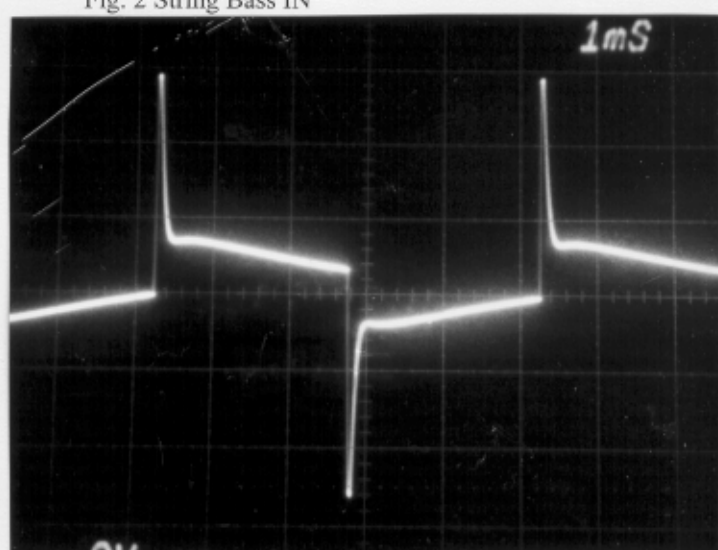

Fig. 4 Presence on 10
5. Turn the PRESENCE to 10 and compare the output to Figure 4. Turn the PRESENCE back to zero